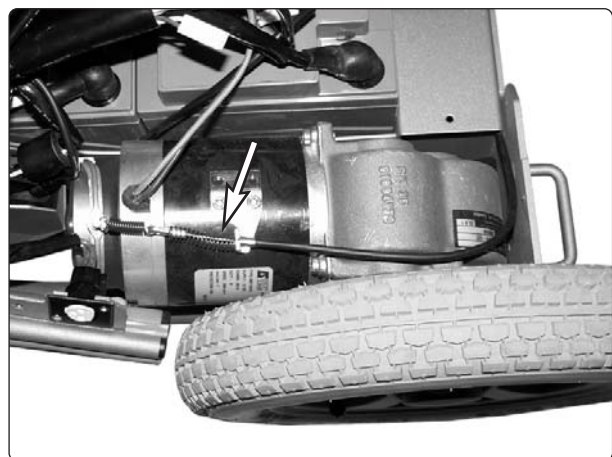

Fig. 32. Disconnect the brake release cable.
6. Pull the cable sleeve forwards and take the cable out through the slot in the cable mounting. Unhook the brake release cable from the magnetic brake, see fig. 32.